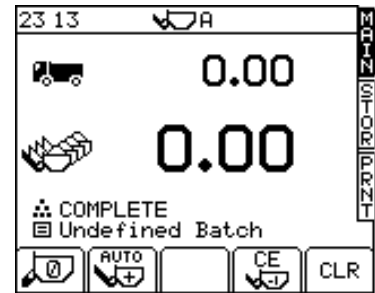

Figure 43
5. Continue for all products in the batch. When you have met the target weight for the final product and press CLR, the display will prompt "COMPLETE" (fig. 43). The instrument is reset, ready for you to select the next batch.